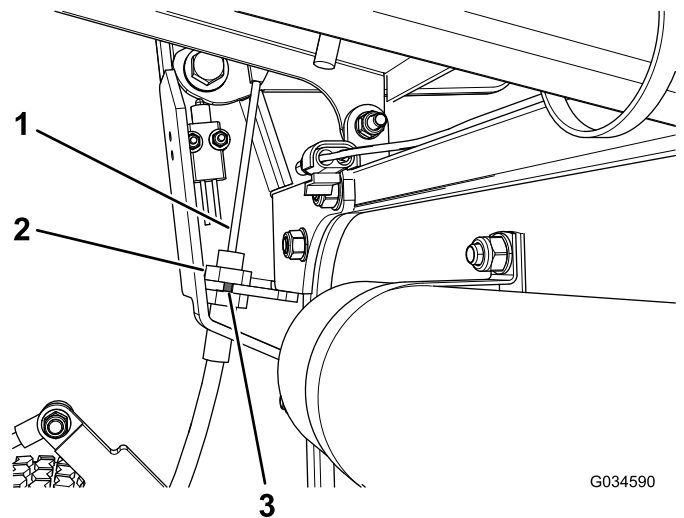

Figure 2
4. Remove the top nut on the threaded fitting securing the cable to the brake-lever bracket (Figure 2).
5. Slide the cable housing down to allow the cable to pass through the slot in the bracket (Figure 2).
7. Remove the top nut on the fitting near the parking-brake lever (Figure 2).
8. Pass the cable through the slot in the parking-brake bracket, and slide the fitting upward into position (Figure 2).
9. Install and tighten the top nut on the fitting to secure the fitting to the bracket (Figure 2).